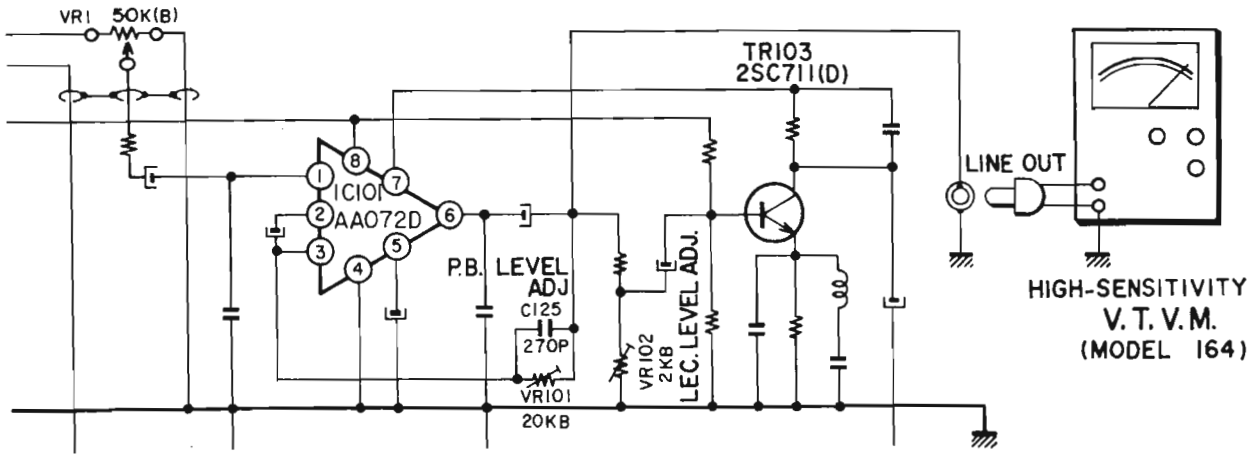

Fig. 14
3. PLAYBACK LEVEL ADJUSTMENTS (See Figs. 14 and 15)
4. RECORDING AND PLAYBACK LEVEL ADJUSTMENTS (See Figs. 14 and 15)